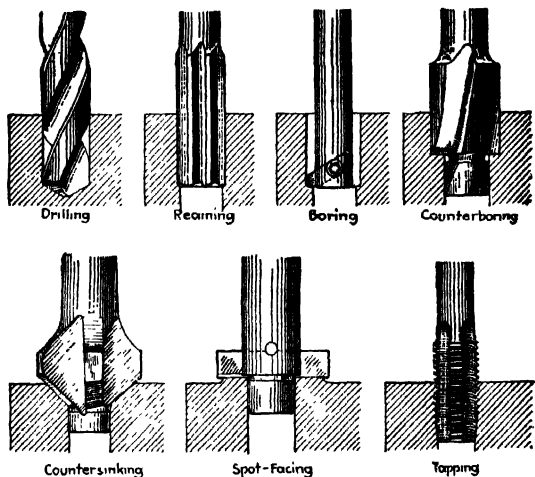

Fig. 8-1. Drilling-machine operations.
**Drilling-machine Operations.** There are several operations involving holes that are usually done on the drill press (Fig. 8-1).